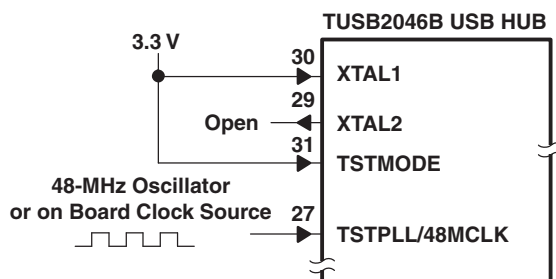

Figure 8. 48-MHz Input Clock Configuration
- A 48-MHz input clock configuration is shown in Figure 8. In this mode, both TSTMODE and XTAL1 terminals must be tied to 3.3-V V_{CC} . The hub accepts the 48-MHz clock input on TSTPLL/48MCLK (terminal 27). XTAL2 must be left floating (open) for this configuration. Only the oscillator or the onboard clock source is accepted for this mode. A crystal can not be used for this mode, since the chip's internal oscillator cell only supports the fundamental frequency.